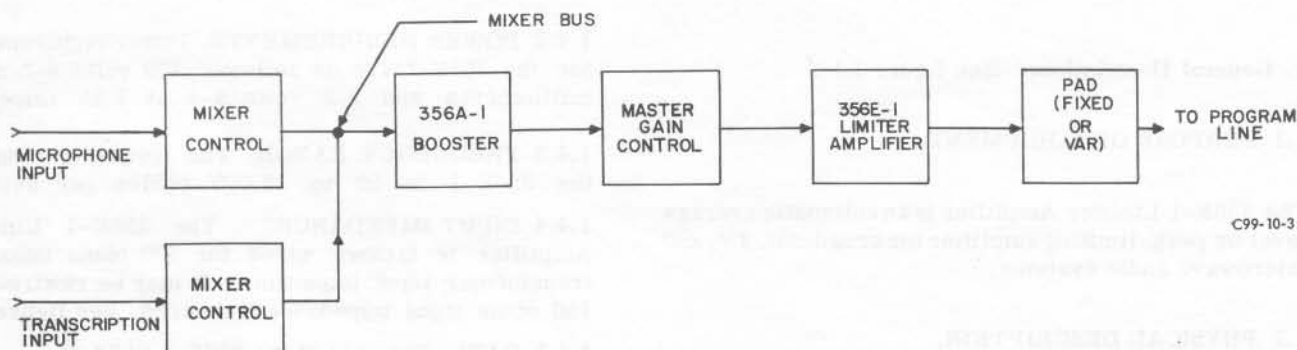

Figure 2. Collins Type 356E-1 Limiter Amplifier as Automatic Fader Control, Suggested Arrangement
2.1.2 THE 356E-1 USED AS AUTOMATIC FADER CONTROL. Refer to figure 2. The 356E-1 is plugged into J108 of the 212F-1 Broadcast Console. Operate the switch on the 356E-1 to DUAL position. Adjust the mixer in the transcription channel until the GR meter indicates a 2- to 5-db gain reduction. Adjust the mixer in the microphone channel until the microphone signal